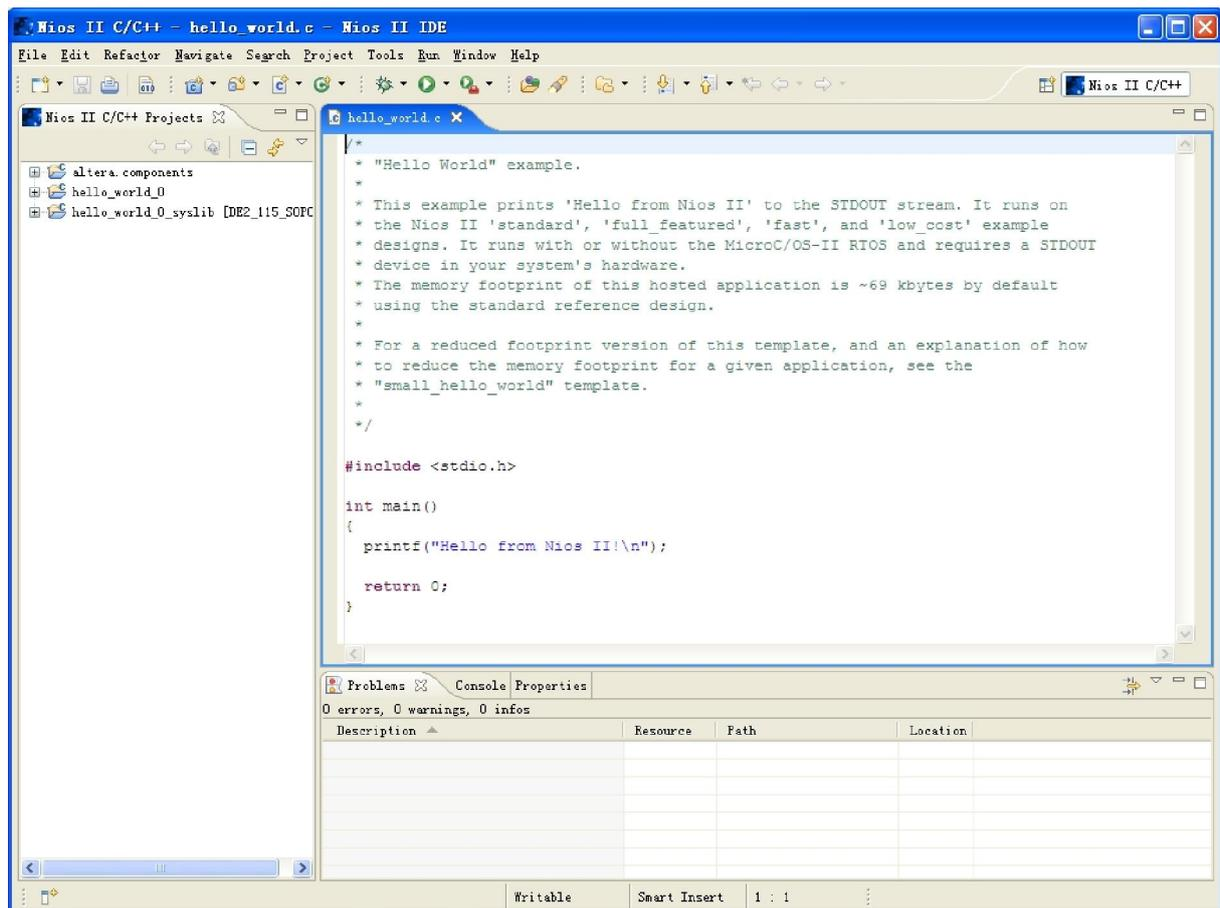

Figure 2-4 Nios II IDE C++ Project Perspective for hello_world_0
5. Click **Finish**. The Nios II IDE creates the **hello_world_0** project and returns to the Nios II C/C++ project perspective. See Figure 2-4.